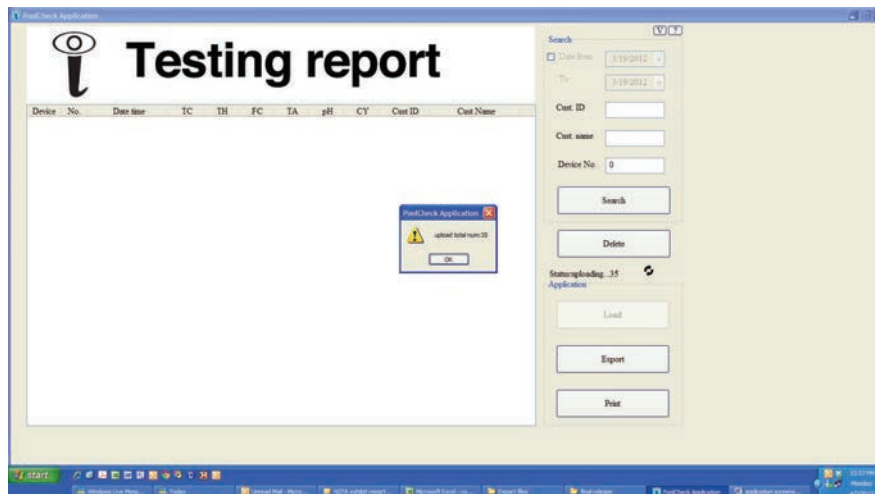

Figure 4—“upload total number “
4. The total number of transferred data points is displayed. Click OK in the “upload total num: dialog box (Fig 4).